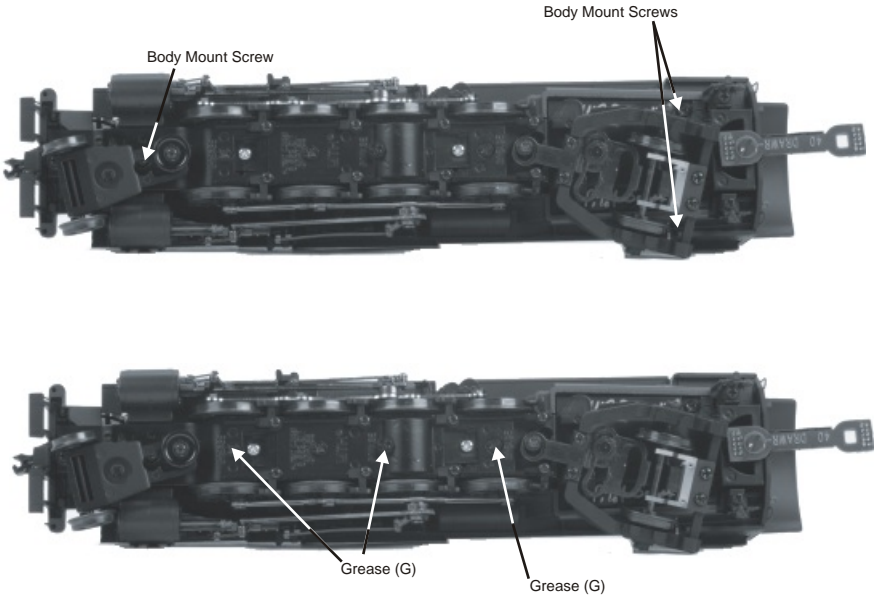

Figure 9. Removing the Body and Lubricating the Grease Points
2. Remove the Phillips screws (marked “GREASE”) located at each set of wheels and under pickup rollers (Fig. 9).
If you experience poor or no smoke output when the smoke unit is on and has fluid, check the wick to see if it has become hard, blackened, and unabsorbent around the heating element. To remove the smoke unit you will first have to remove the boiler shell (by removing the body mounting screws shown in Fig 9 on pg. 15), board and bracket that block the smoke unit assembly from being accessed. To do this, follow these instructions: